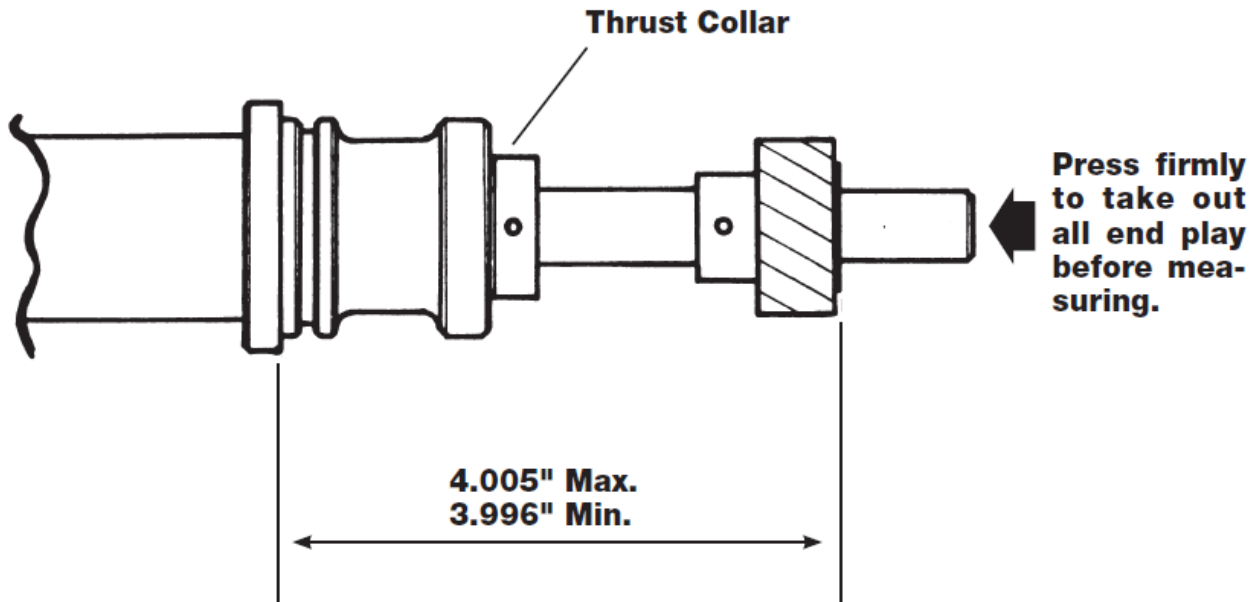

Figure 5 Gear Installation Specifications
1. With the endplay of the distributor shaft removed, measure the distance from the bottom of the gear to the bottom of the mounting flange (**Figure 5**). It should be within the specifications shown.
5. Press the new gear into position on the shaft. Measure the distance as shown in **Figure 5** before drilling the new roll pin hole.